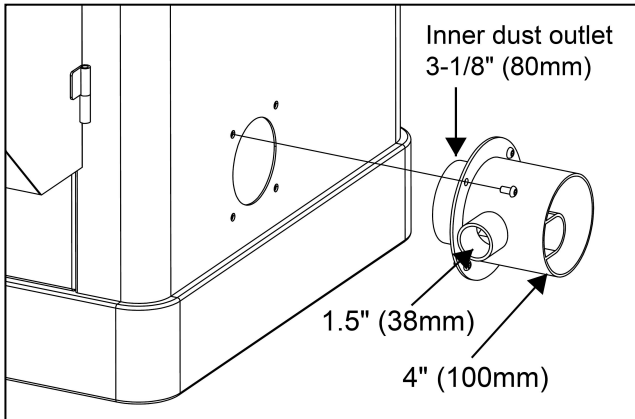

Fig.13
1. Installation of the Dust Outlet (Fig.13).
As shown in Fig.13, secure the dust outlet to the cabinet, and then connect the bellows to the dust outlet.